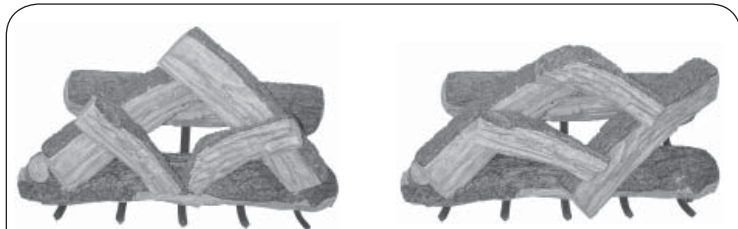

Fig. 7-5
Log placement is very important for the proper operation of the Real-Fyre® gas log set. Although you have some flexibility in the log arrangement, it is necessary to follow the LOG PLACEMENT instructions carefully to fully enjoy your log set. Follow the steps below, referring to Fig. 7-1 through Fig. 7-5.
1. The second-longest log, the rear log, is placed on the rear of the grate with the bark of the log facing forward (Fig. 7-1). Center the log left to right (Fig. 7-5, #1). If the log has a heat chamber (a recess in the back), it can face either forward or to the rear.